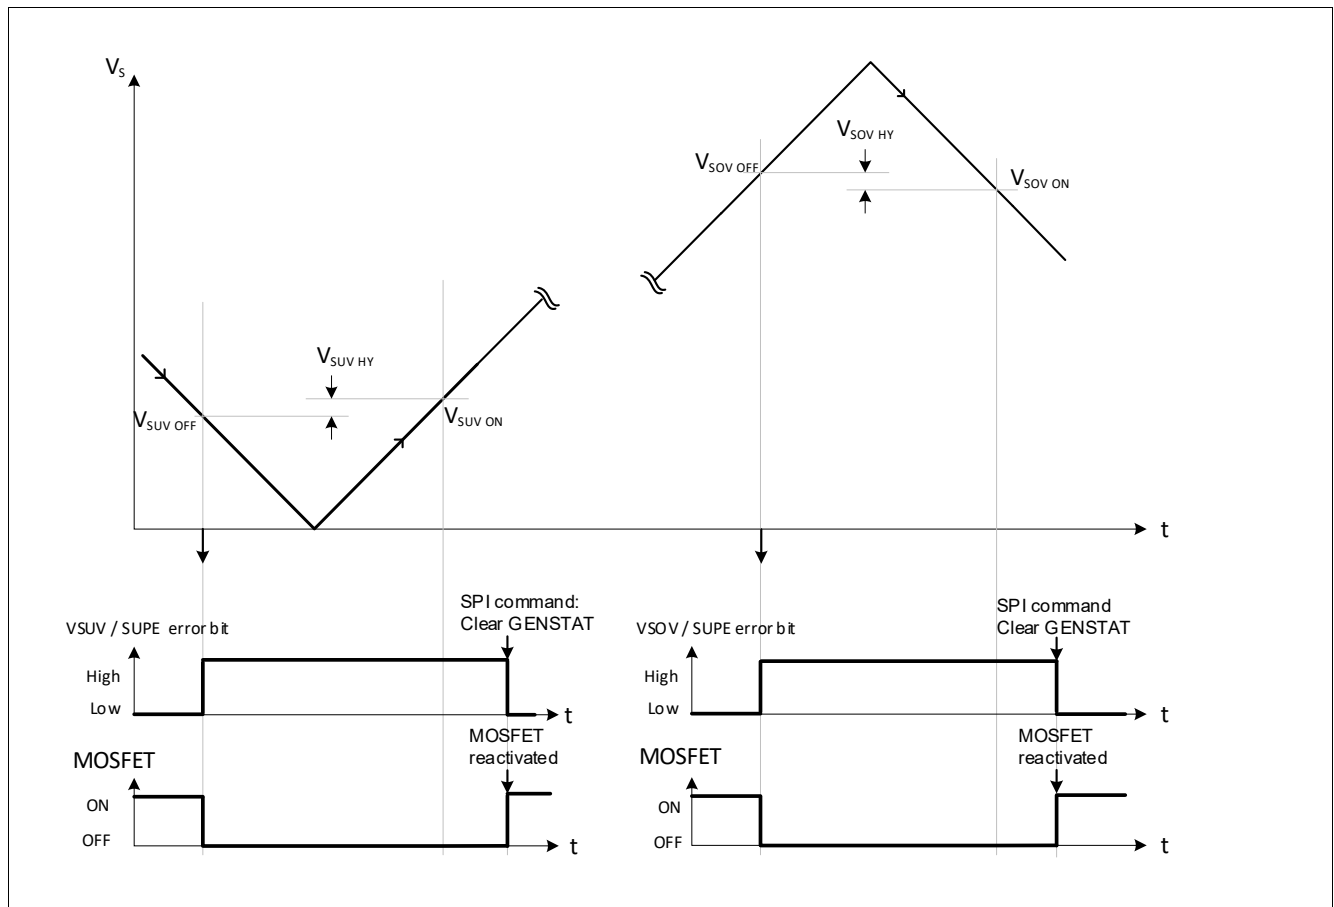

Figure 37 Output behavior during Over- and Undervoltage V_S condition
- $V_S > V_{SUV\ ON}$ (See **Figure 37**).
- $V_S < V_{SOV\ ON}$ (See **Figure 37**).